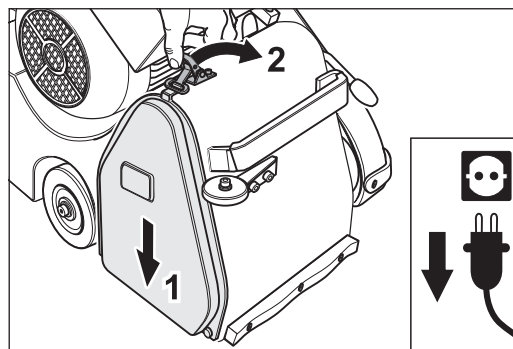

Fig. 18 Mount the side cover.
- 15 After the checking and setting of the sanding belt tracking mount the side cover (Fig. 18).